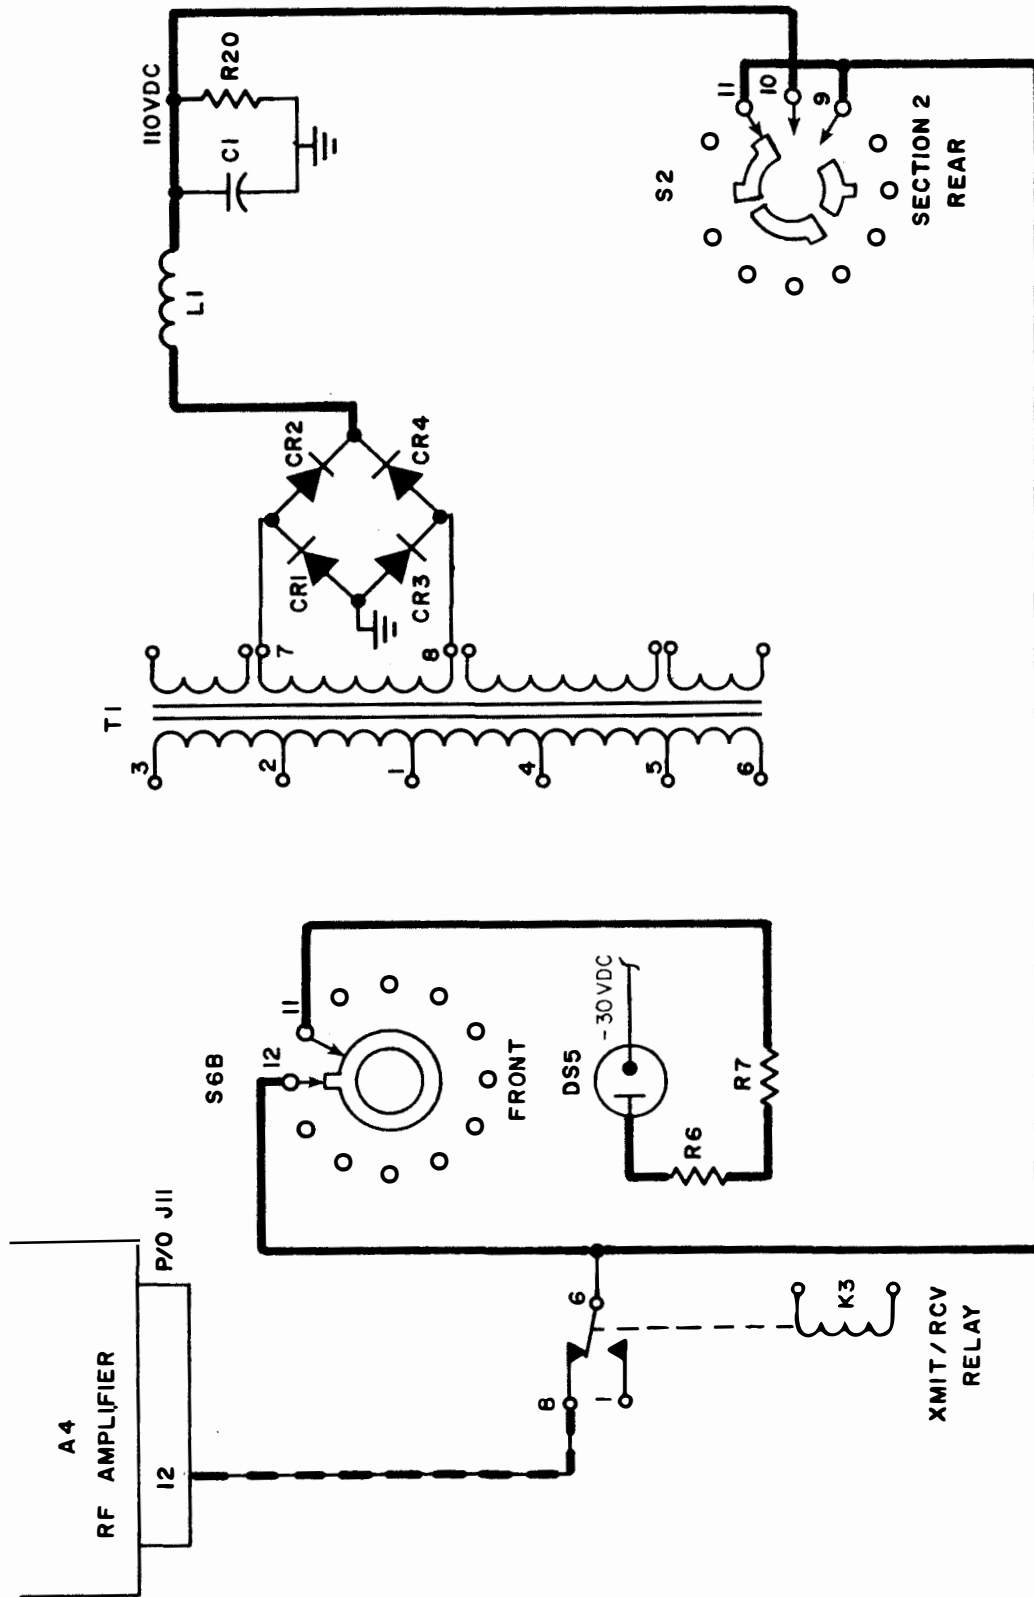

FIGURE 3
4. Using a blue pencil or fine point felt tip pen and Figure 3, color code the mainframe +110 VDC supply distribution.